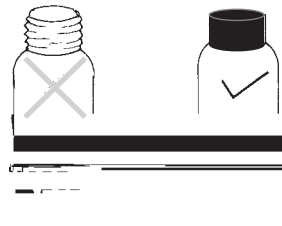

Fig. 9.8
- Always keep the immersion oil bottle capped and free from dust and debris (Fig. 9.8).